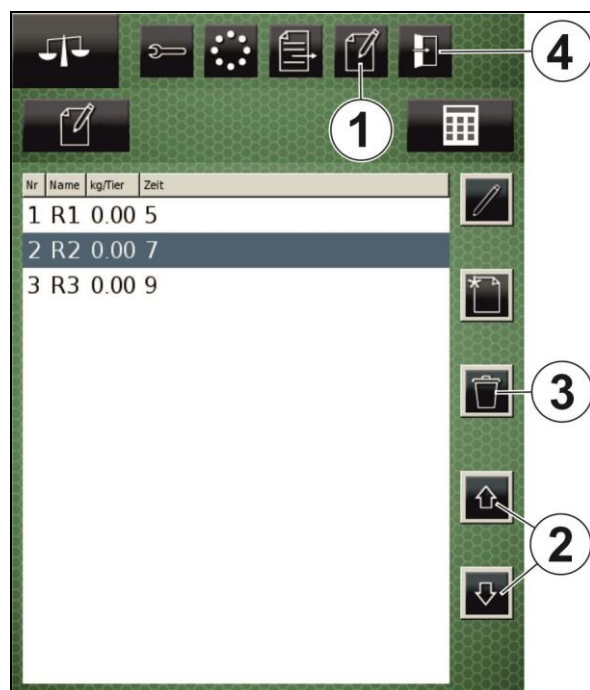

Fig. 194
6. Press the "Exit menu" key (Fig. 194/4) to call up the basic configuration of the terminal.